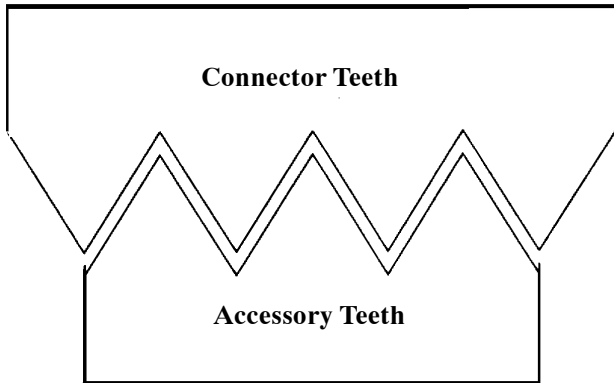

Figure 1. Proper (Peak-to-Valley) Position of Connector and Accessory Teeth in Mated Condition
17. **Proper Mating of Connectors and Accessories.** The teeth of the connector and connector accessories need to mate "peak-to-valley" to ensure proper mating. If the teeth are peak to peak, the components may seem properly mated, but the teeth may eventually slide into the "peak-to-valley" position, causing the coupling ring to become loose (Figures 1 and 2). Install the accessory hand tight, then wiggle the accessory to allow the peaks of the teeth to slide past each other. Hand tighten the coupling ring again. Repeat this procedure until the accessory cannot be tighten.